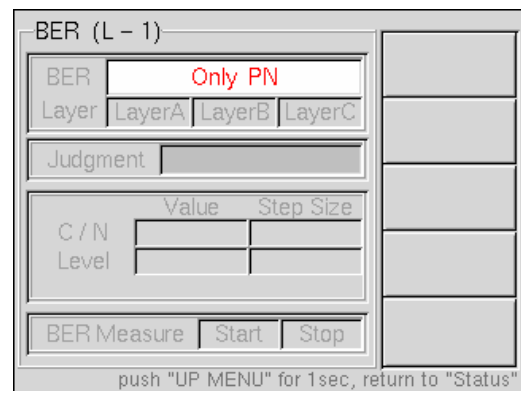

Figure 5-29 Impossible to set
- * The BER measurement mode is enabled when the TS Select is set to PN. BER cannot be measured when other than TS Select is set to PN, and message as shown in Figure 5-29 is displayed.